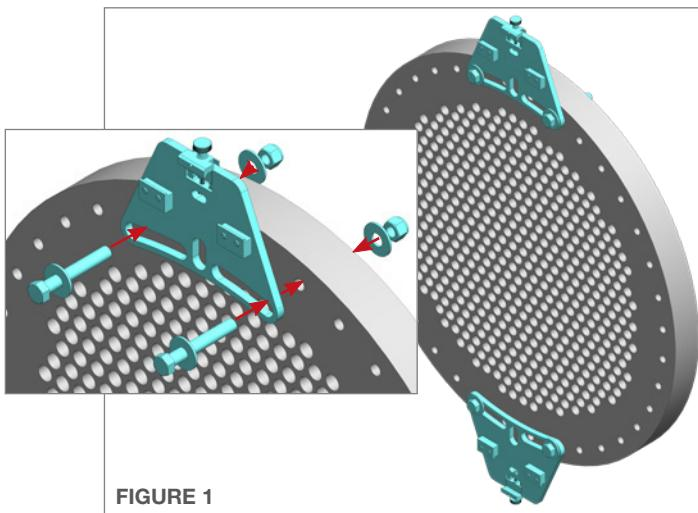

FIGURE 1
QUICK CLAMPS (LWP 518) are for use with heat exchanger flanges that provide a robust clamping surface or if flange holes are inaccessible. Align clamps on the surface of the flange to maximize flange engagement to clamps. (Figure 1)
SLOTTED QUICK (LWP 552) AND PLATE CLAMPS (LWP 519) are for use with heat exchanger flanges that have easily accessible bolt holes. Use quick clamps or plate clamps, depending on the spacing of the hole pattern. (Figures 1 & 3)
1. Mount the appropriate frame **Positioner Clamps** to the tube bundle as shown in Figure 1. (Shown with Plate Clamps) Positioner Clamps should be Parallel to the direction of the tube rows. (**Figure 1**)